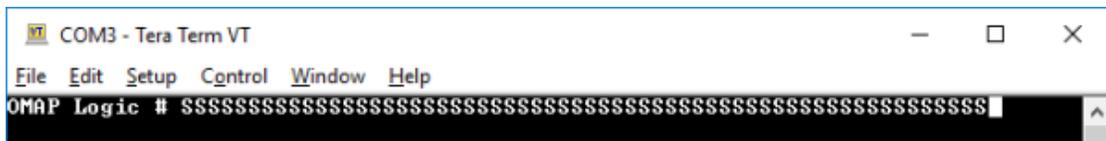

Figure 12: Shift+S in Tera Term
- The terminal window is shown in Figure 12 Immediately after entering the U-Boot console. The 3000-OEM uboot prompt is: `SLA3000#`